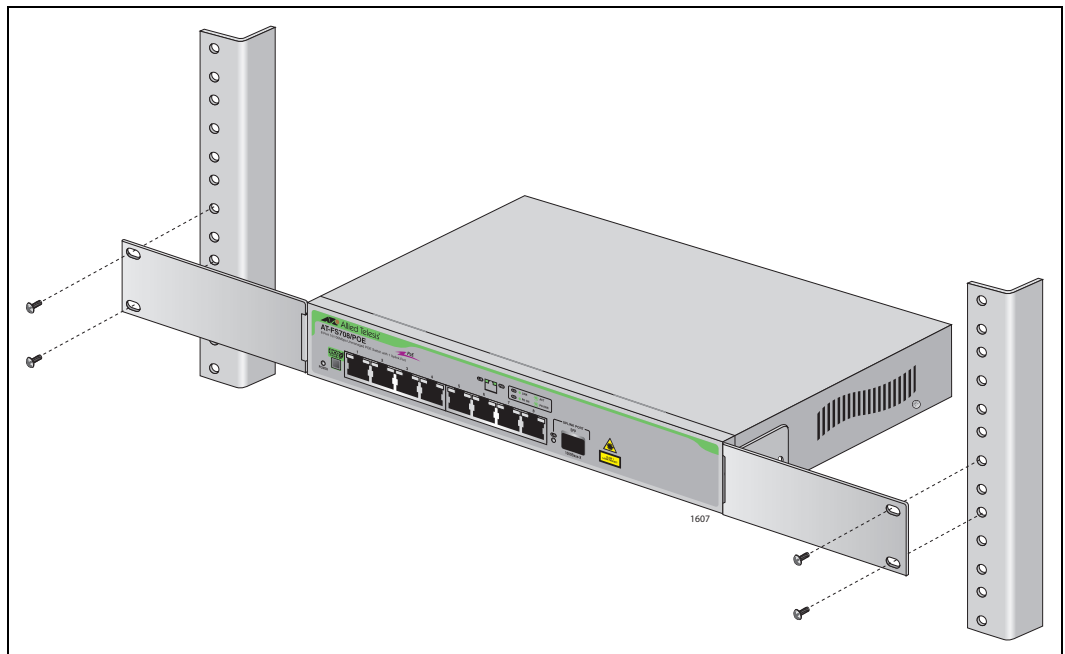

Figure 8. Mounting the Switch on the Rack
3. Mount the switch on a 19-inch rack using the four rack-mount screws, as shown in Figure 8.